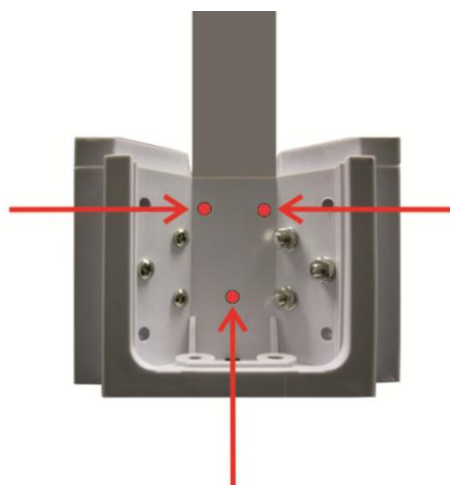

Fig. 4
3. Install the square tube and mark the 3 holes as in figure 4. If you are using a hand drill, make sure to mark and drill the holes from the front and the back of the tube to get the best results.